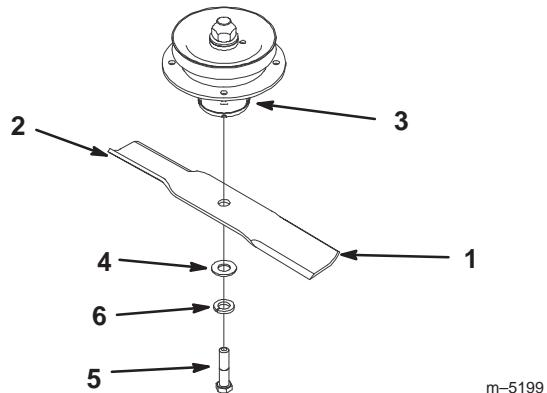
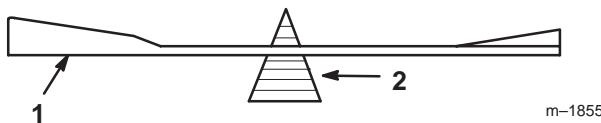

Figure 64
Figure 66
1. Hold the blade end using a rag or thickly-padded glove. Remove the blade bolt, washer, lock washer and blade from the spindle shaft (Fig. 64).
2. Check the balance of the blade by putting it on a blade balancer (Fig. 66). If the blade stays in a horizontal position, the blade is balanced and can be used. If the blade is not balanced, file some metal off the end of the sail area only (Fig. 64). Repeat this procedure until the blade is balanced.
1. Install the blade onto the spindle shaft (Fig. 64).
Important The sail part of the blade must be pointing upward, toward the inside of the mower to ensure proper cutting (Fig. 64).
2. Install the lock washer and blade bolt (Fig. 64).